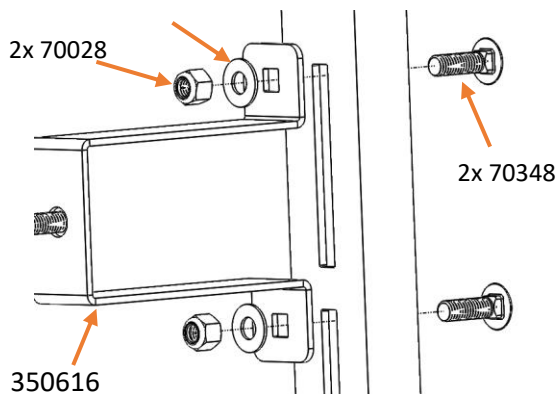

Figure 16: Tire Mounting Bracket Installation
34. Loosely fasten the Tire Mounting Bracket to the slotted channel using the 3/8" carriage head bolts, washer, and nuts to mount. Reference Figure 16.